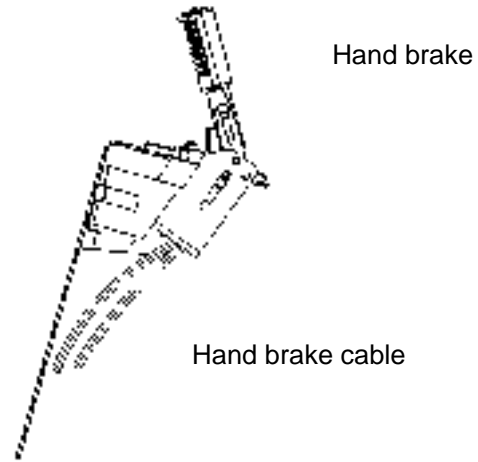

Fig. 2-17 Parking Brake Handle
2.5 Parking Brake Controls (Fig. 2-17)